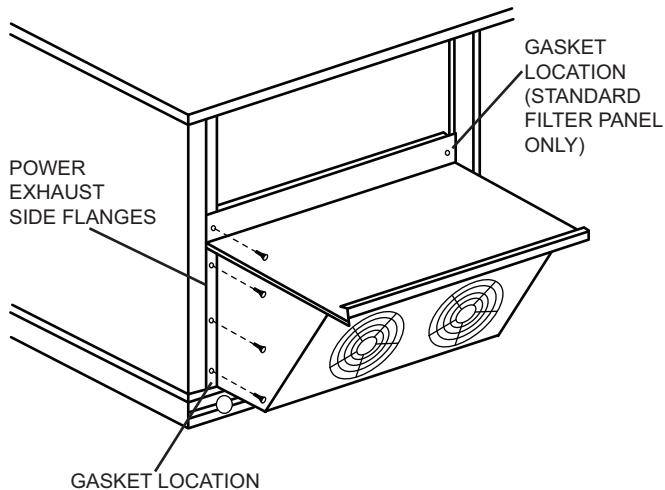
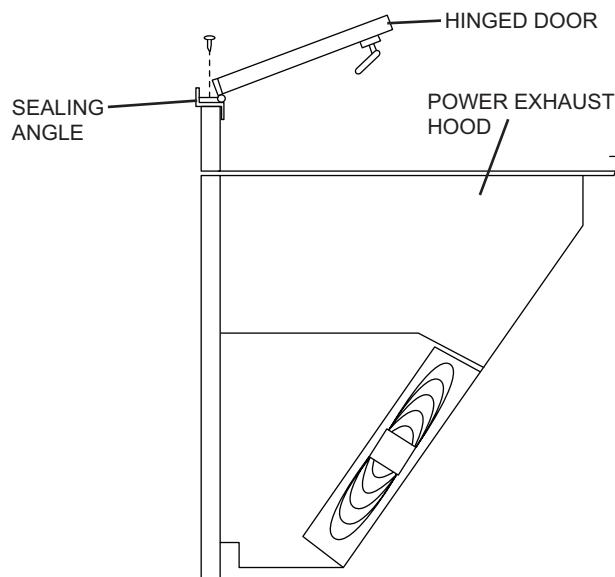

Fig. 14 — Power Exhaust Installation
Fig. 16 — Install the Hinged Door
2. Attach the sealing angle to the top of the power exhaust hood using the screws provided. Refer to Fig. 14 and 15. Note that the gasketing flange will be facing out.
6. Remove the hinged door and drill four (4) 11/64 in. holes where the marks are.
7. Place the door and hinges back on the unit. Screw through the door hinges and sealing angle into the flanged top of the hood using the 4 screws set aside when the hinged door was removed. (See Fig. 16.)